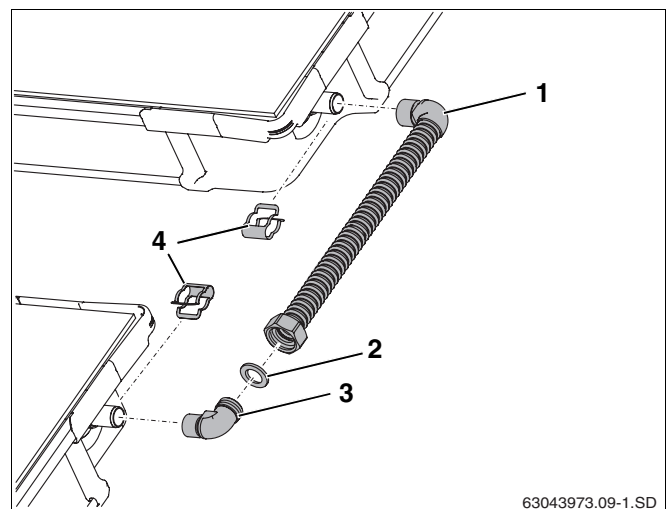

Fig. 39 Connection set between two collector rows
- ▶ Insert gasket (Fig. 39, **Item 2**).
- ▶ Insert pipe bend (Fig. 39, **Item 3**) into union nut, align and screw tight.
- ▶ Push connection pipe (Fig. 39, **Item 1**) onto the collector connections and fix in place using brackets (Fig. 39, **Item 4**) from the connection kit.